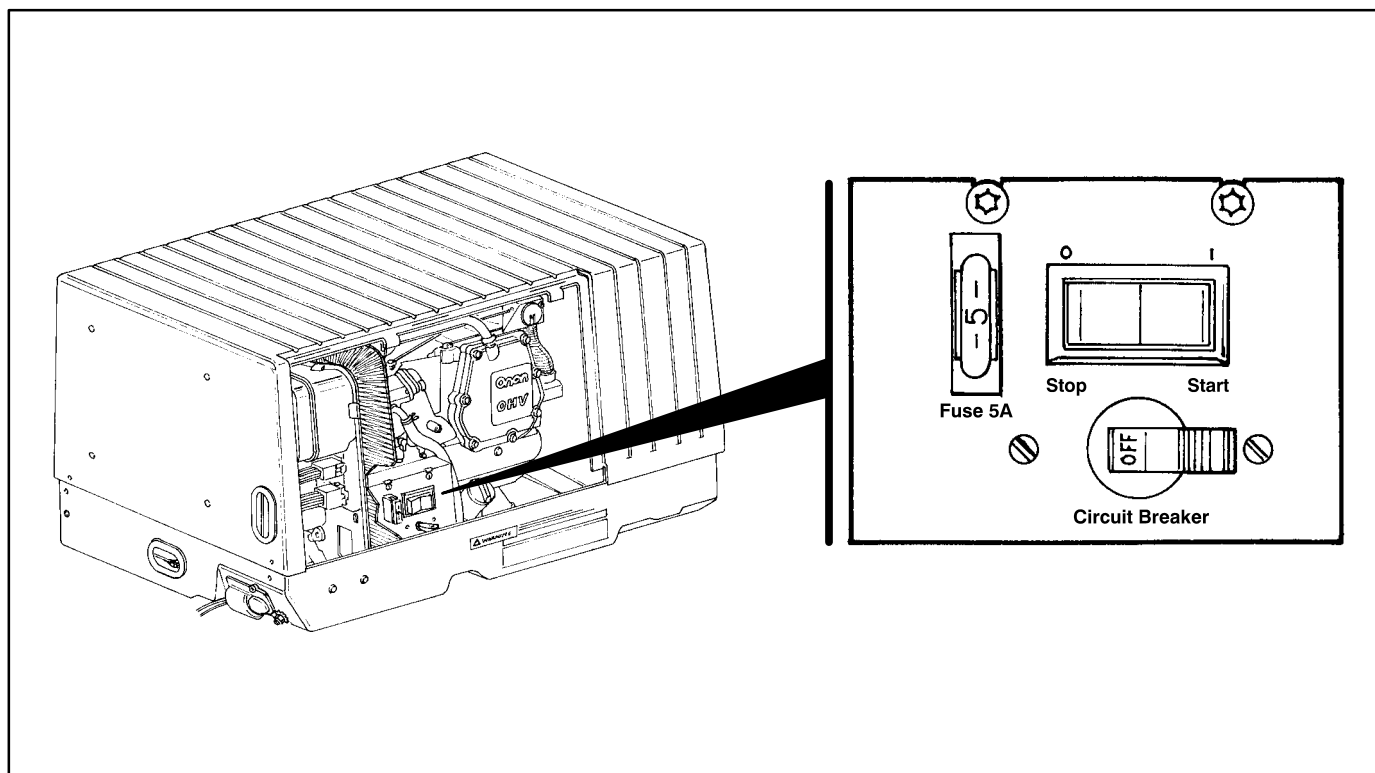

FIGURE 9-2. STANDARD CONTROL PANEL
1. Move the Start/Stop switch to the start (I) position (Figure 9-2). The engine should crank and start. The genset may need more cranking during the initial start, to prime the fuel system. If the genset fails to start, see the *Troubleshooting Guide* in the Operator's Manual.